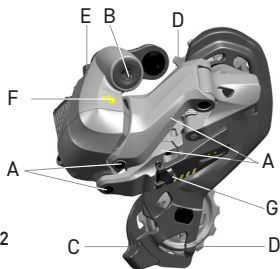

Fig.2
• The rear derailleur is a component of the drivetrain of the bicycle which shifts the chain on the sprockets to obtain different final drive ratios between crankset and wheel (the parts of the rear derailleur are shown in Fig. 2).